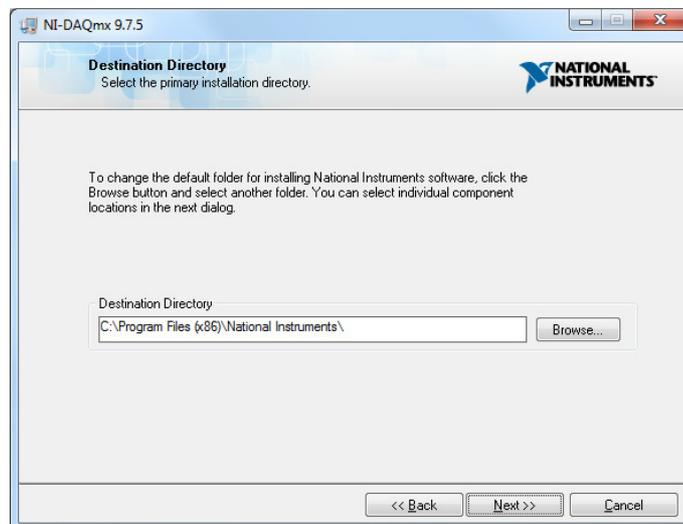
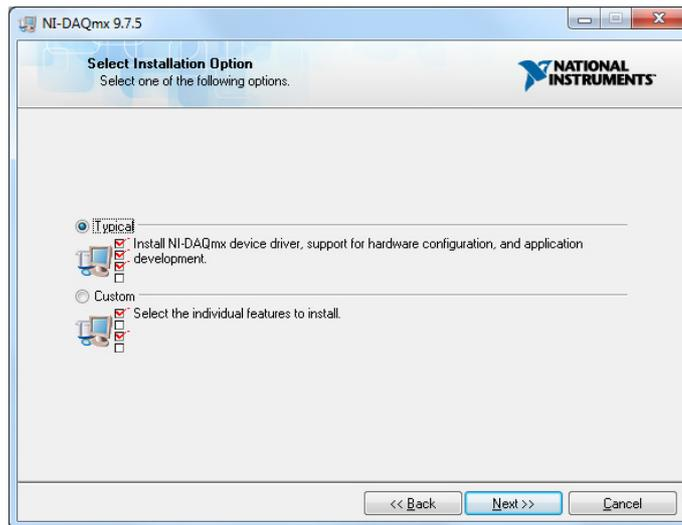

Figure A.2 Destination directory choice.
Figure A.3 Installation-option selection.
- The next two installer pages allow the target directory (Figure A.2) and installation options (Figure A.3) to be chosen. Select the **Typical** installation option if the TK Power Meter. Throughout the installation, the **Next** button in the window must be selected to progress to the next stage.